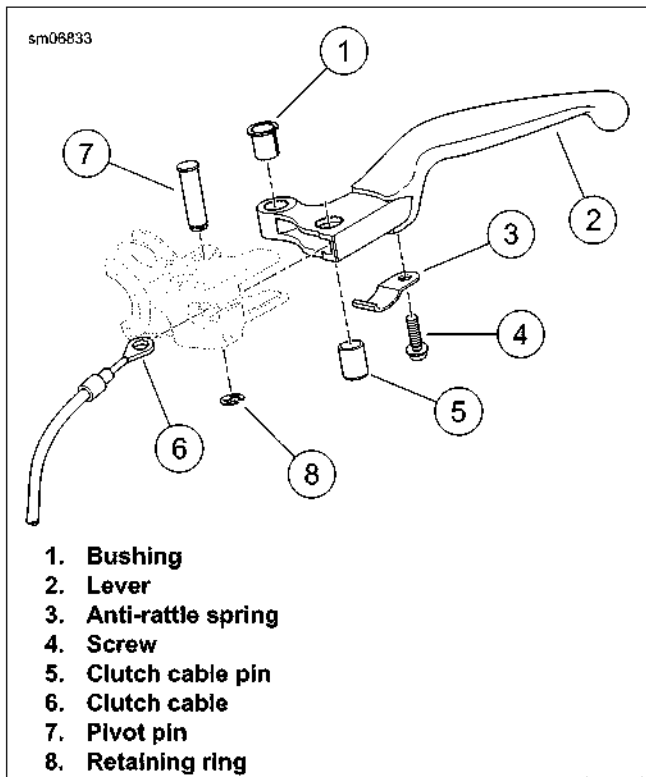

Figure 2-123. Clutch Lever and Cable
1. See Figure 2-123. Remove retaining ring (8) and pivot pin (7). Discard retaining ring.
2. Remove clutch lever (2) from clutch lever bracket.
3. Remove clutch cable pin (5). Disconnect clutch cable (6) upper section from lever.